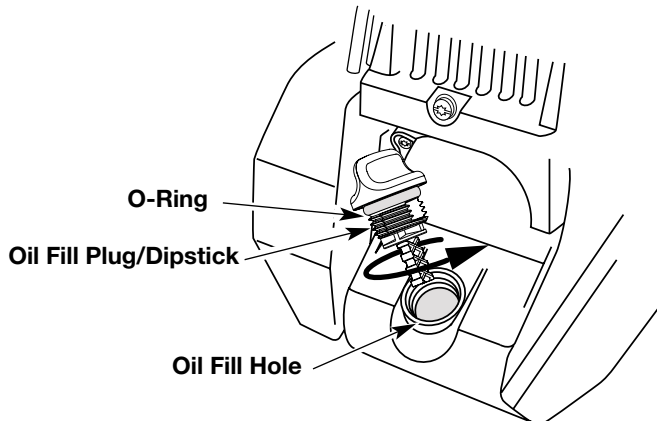

Fig. 40
6. If the level is low, add a small amount of oil to the oil fill hole and recheck (Fig. 40). Repeat until the oil level reaches the top of the dipstick.
NOTE: Make sure the O-ring is in place on the oil fill plug/dipstick when checking and changing the oil (Fig. 40).